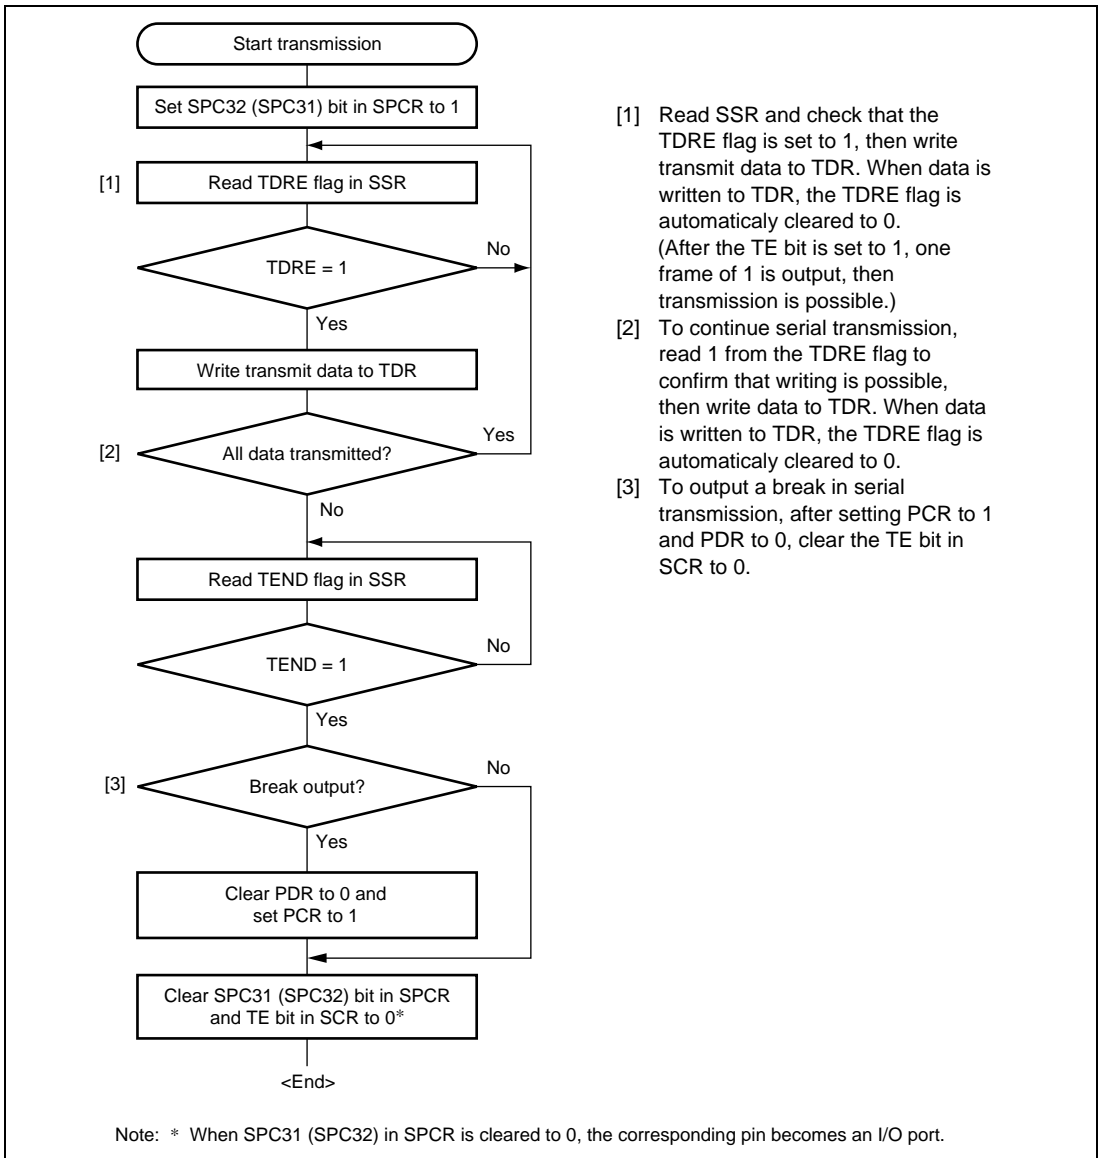

Figure 15.6 Sample Serial Transmission Flowchart (Asynchronous Mode)
6. Figure 15.6 shows a sample flowchart for transmission in asynchronous mode.